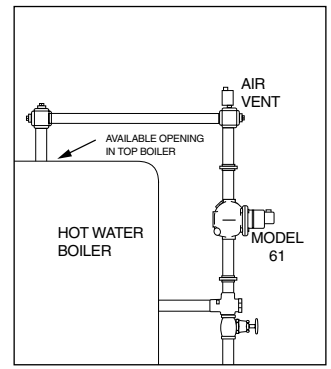

Figure 2
**Figure 2.** If there is a tapping available on the top of the boiler connect the upper equalizing pipe to it. **NOTE:** During initial filling or after blow down the upper equalizing pipe and possibly the 61 control will have an air pocket. Connect a vent or bleed valve on the top of the vertical equalizing pipe. If the Test-N-Check (TC-4) valve is used the vacuum breaker can be used to bleed the air pocket.